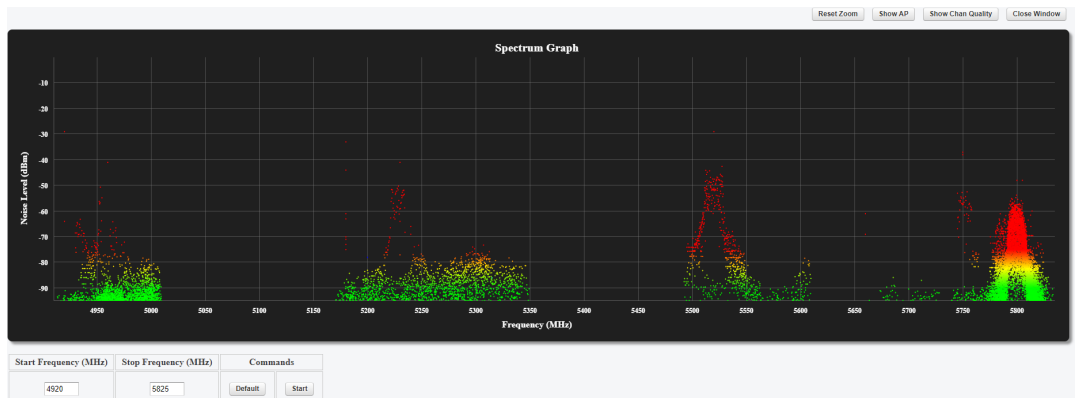

Figure 29. Spectrum Graph window (typical display)
- The **Spectrum Graph** window will open in a new web browser tab (Figure 29 (page 84)).